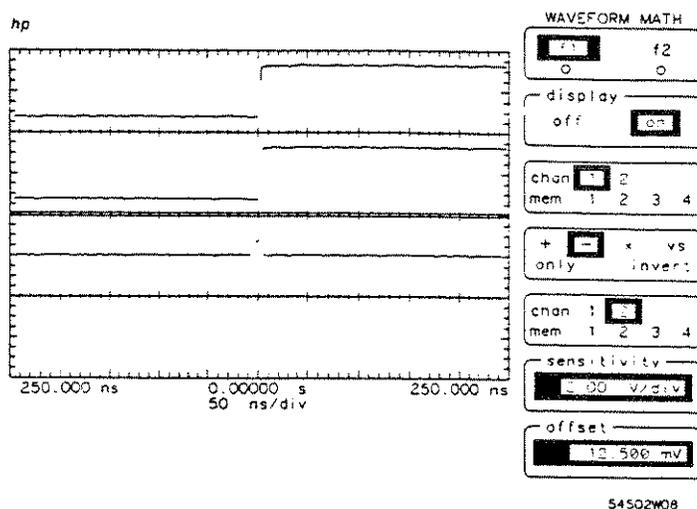

Figure 9-5. Channel 1 minus Channel 2
- Press TIMEBASE and set the horizontal display to 50.0 ns/div (see Figure 9-5). This display is best viewed when the oscilloscope is in repetitive acquisition mode.